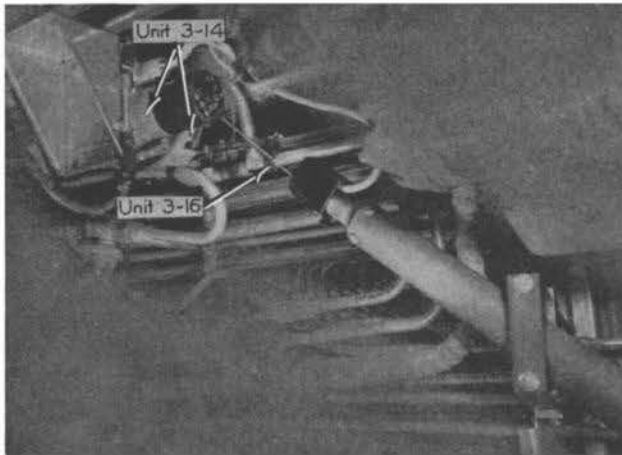

Figure 49. Liaison Trailing Antenna Installation
- 3-14 One RL-42 Antenna Reel. Figure 49.
- 3-15 One MC-163 Antenna Fairlead. Figure 49.
- 3-16 One F-10 Trailing Antenna. Figure 49.